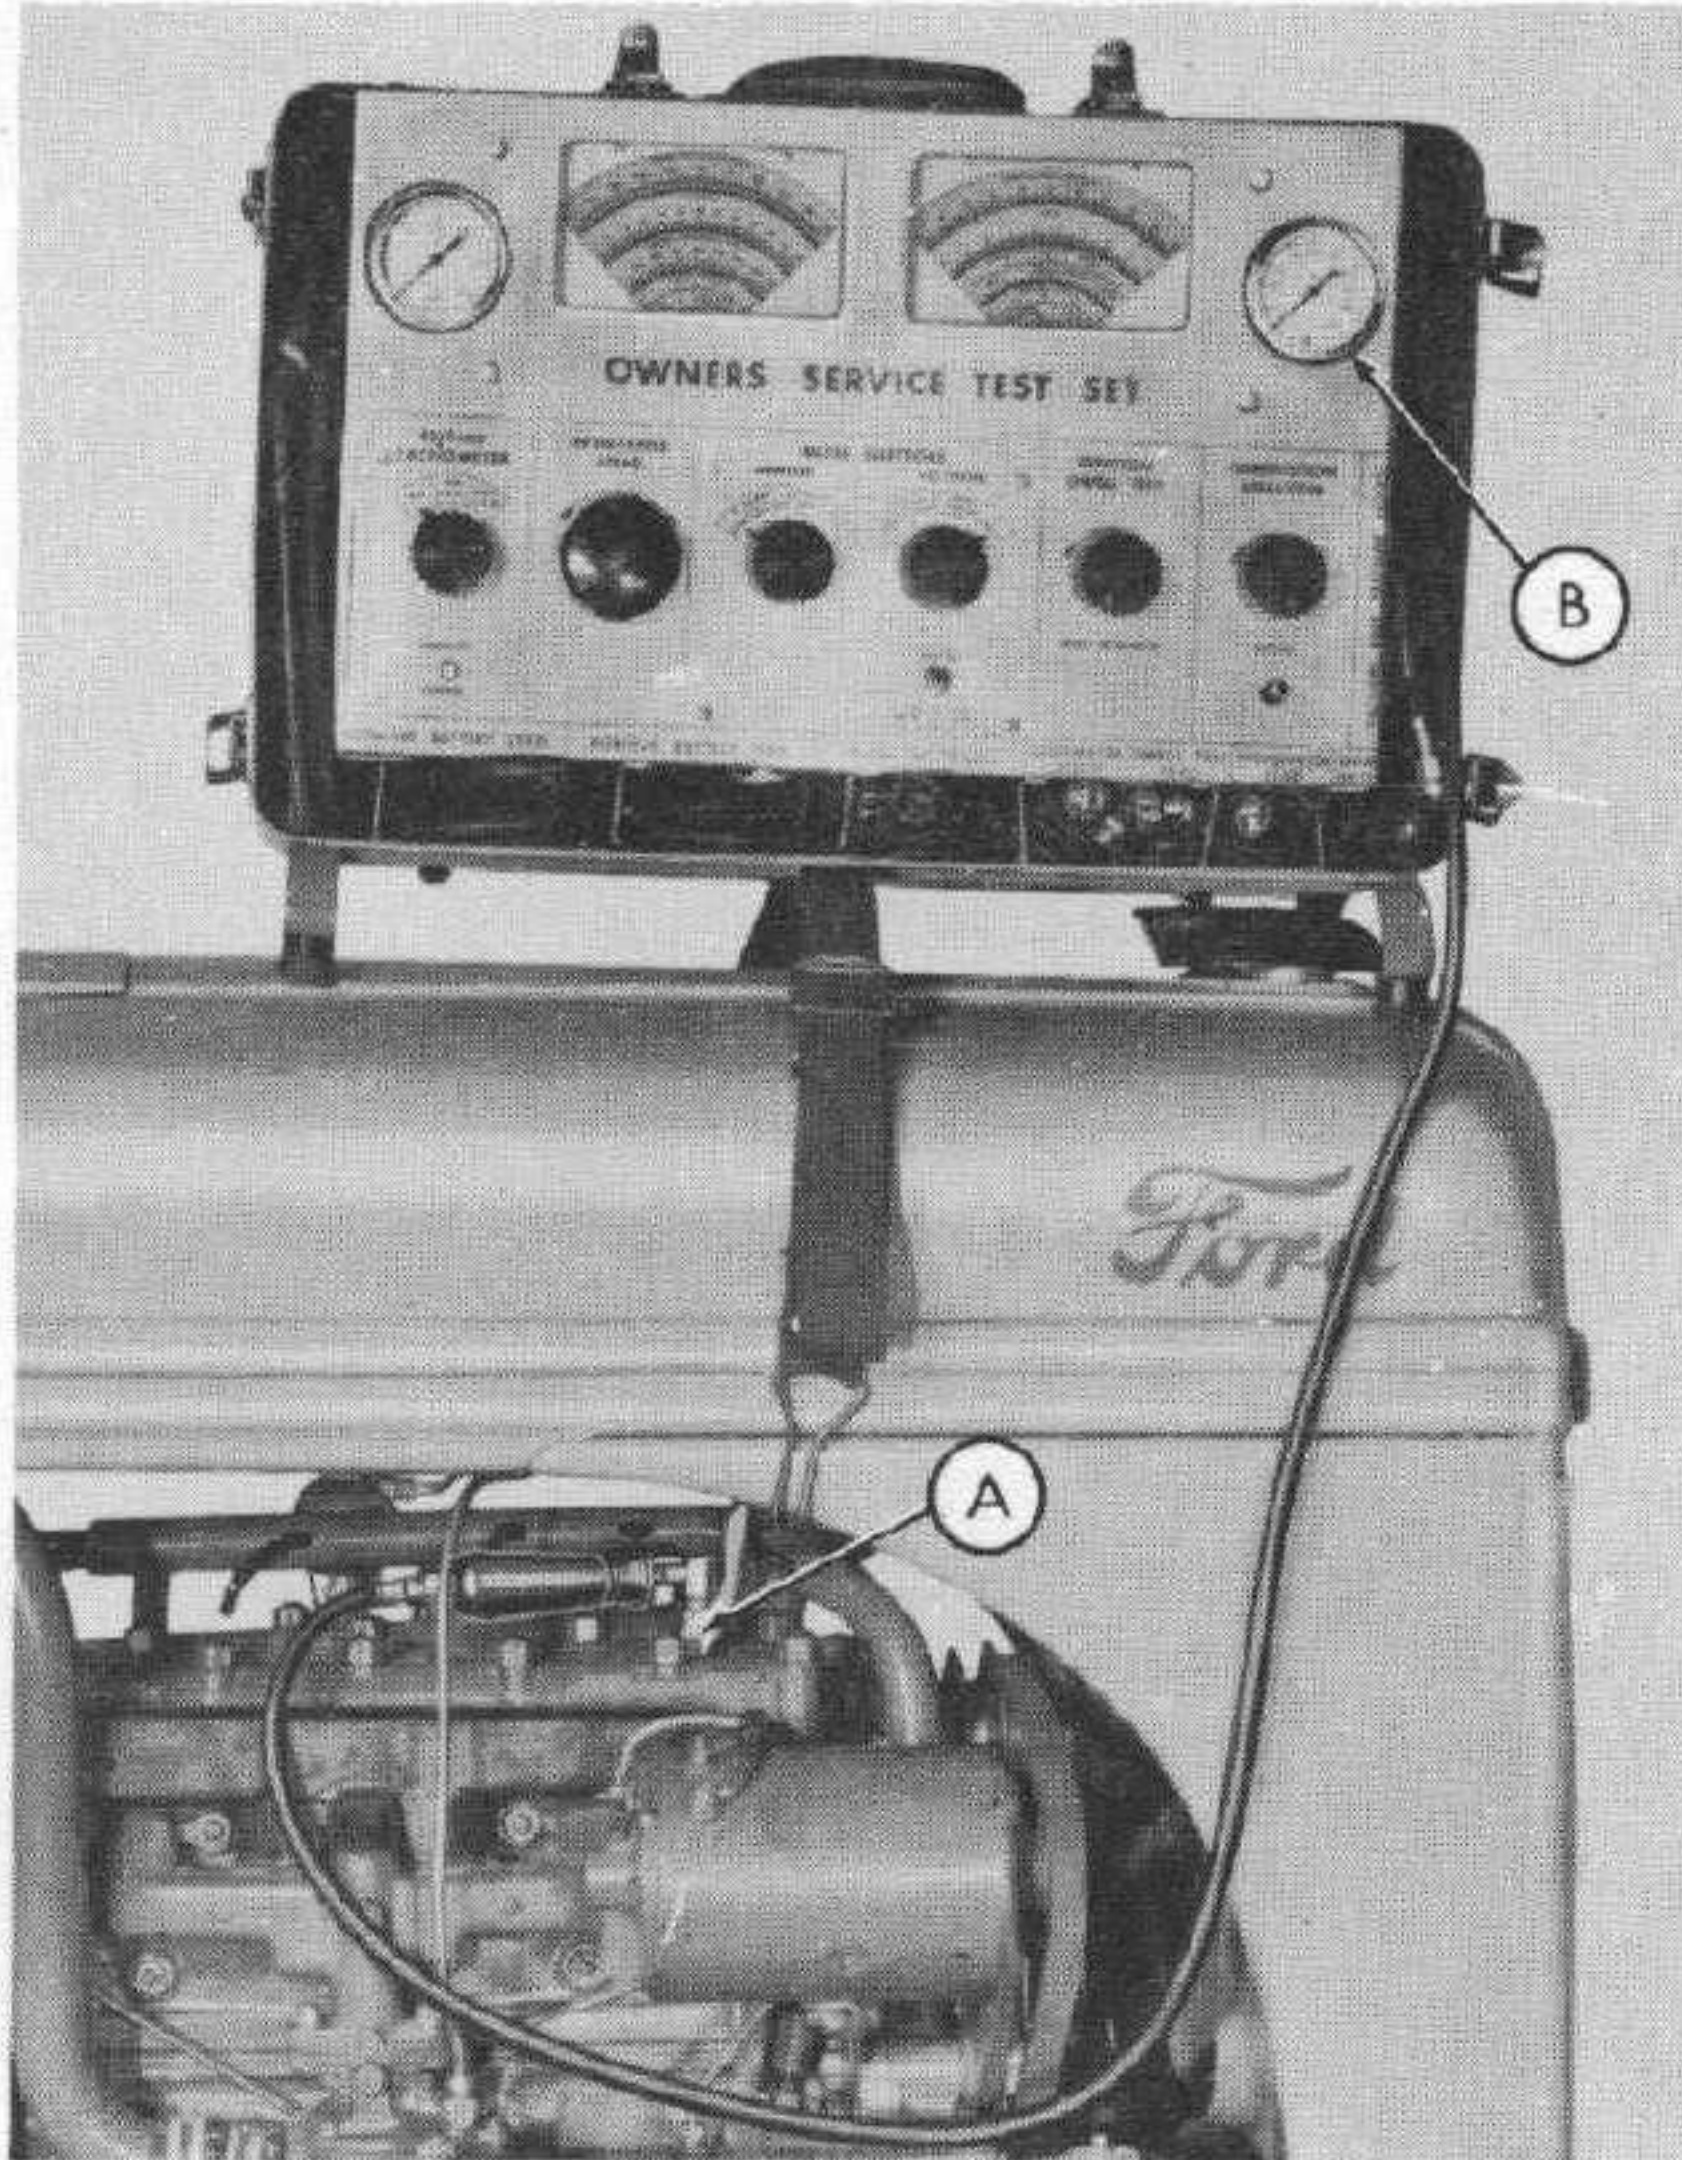

Fig. 10
NOTE: The generator should now run as a motor. The 3-brush generator should draw from 5 to 6 amps. when running freely. The 2-brush generator should draw about 11 amps. (Check the reading on the 60 amp. scale (C-Figure 10).
- Step 3—Plug the pressure hose adaptor with the proper rubber bushing, into a spark plug opening as shown at (A-Figure 10).
- Step 5—Crank the engine with the push button control attached to the starter relay and ground and read on the pressure gauge (B-Figure 10). Continue cranking the engine for four or five seconds until the reading shows no further increase. The adaptor is provided with a check valve which permits the compression in the gauge to accumulate. Check the specifications sheet accompanying this Job Plan for the correct compression pressure.